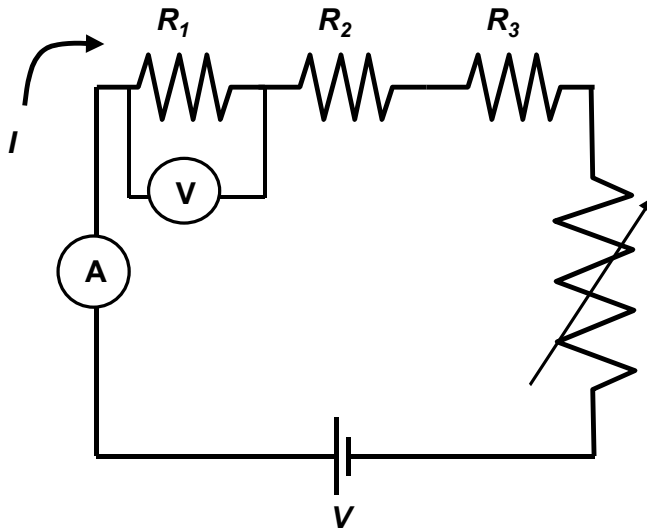

Figure 4
2. Connect the light bulbs in series as illustrated in Figure 4. Set the current to 0.14 A. Measure the current in the circuit through and the voltage drop across the light bulb. Then repeat the measurement for the other two light bulbs.